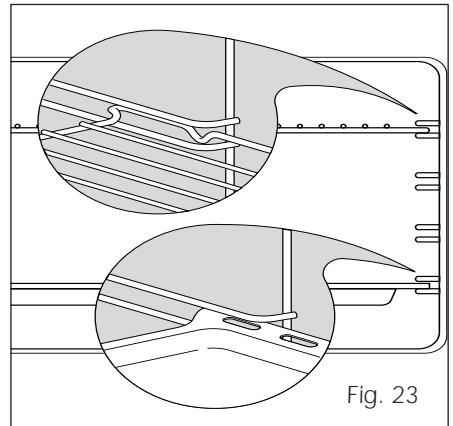

Fig. 23
- Slide the tray and rack into the runners (Fig. 23). The rack must be fitted so that the safety catch, which stops it sliding out, faces the inside of the oven.